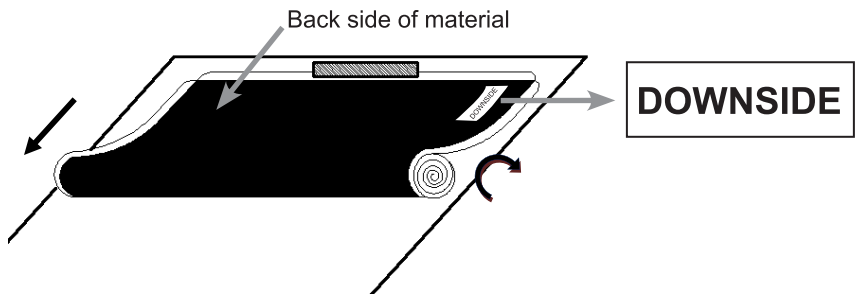

Figure 2
2. It is strongly recommended for two people to unroll the material to prevent the screen from bending or rolling unevenly. Each person should hold one end of the roll and slowly unroll the screen in a clockwise direction (Figure 2).